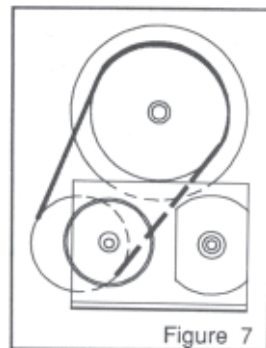

Figure 7
- A. Move the drive belt to the pulley on the finish/dry motor and to the small diameter groove on the double drive pulley. See Figure 7.